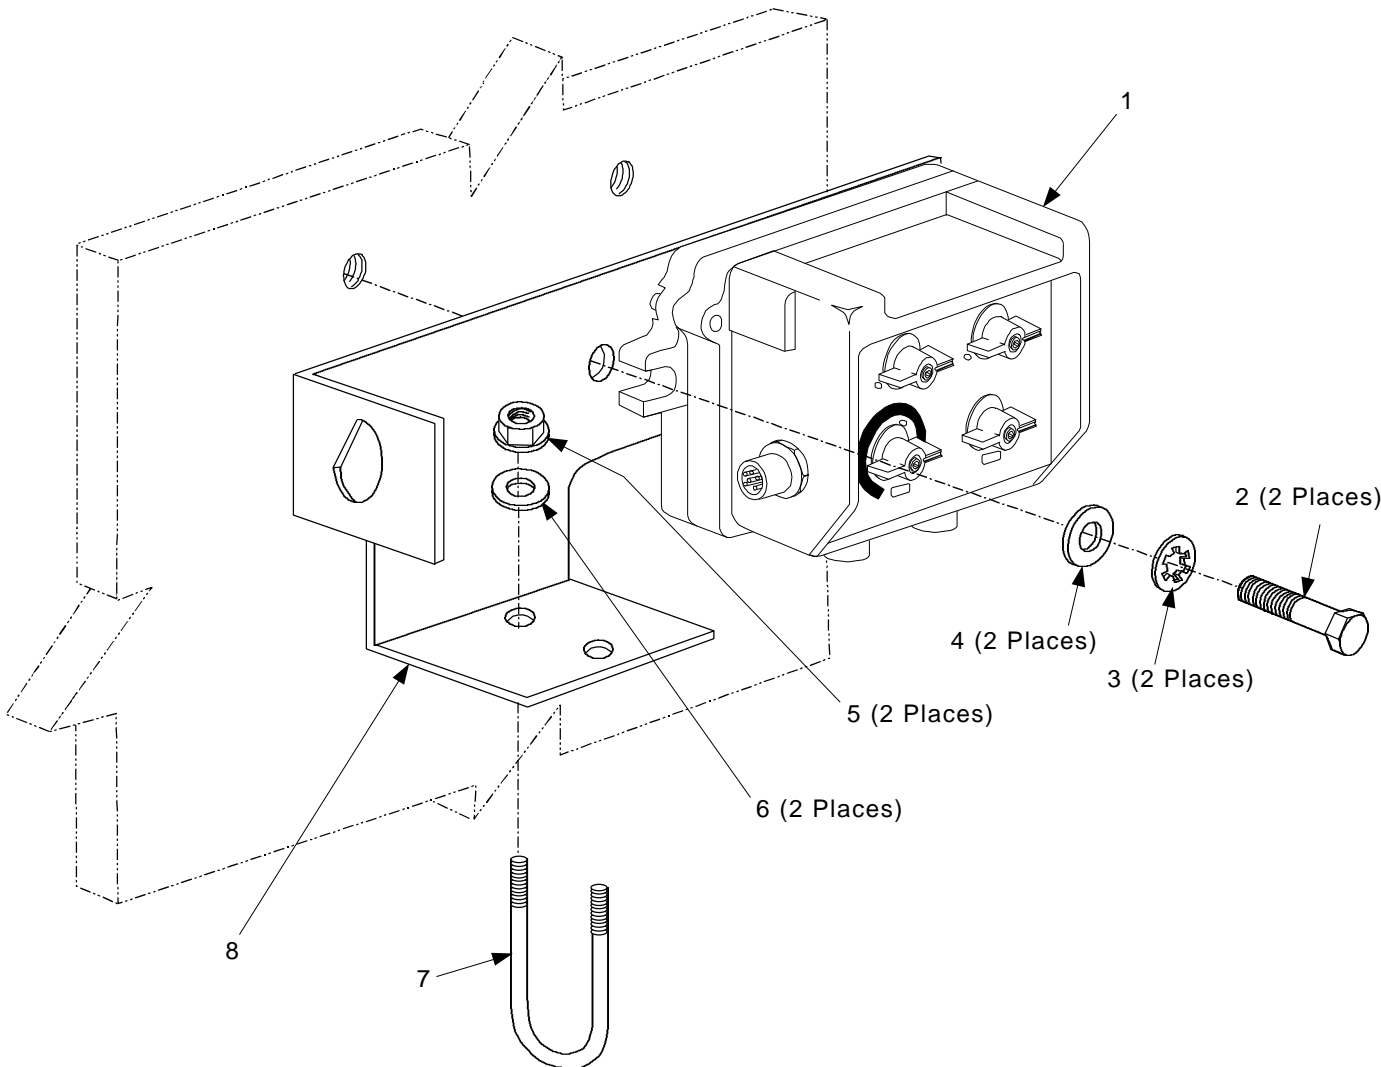

Figure 4-6. Driver's FFCS Installation
Install and secure the Driver's FFCS (1) and Bracket (8) to the curbside wall in the sequence(s) shown in Figure 4-6 using items 2, 3 and 4 from Table 4-4 and the following tools:
Install and secure U-Bolt (7) on the Mounting Plate (8) in the sequence(s) shown in Figure 4-6 using Items 5 and 6 from Table 4-4 and the following tools: